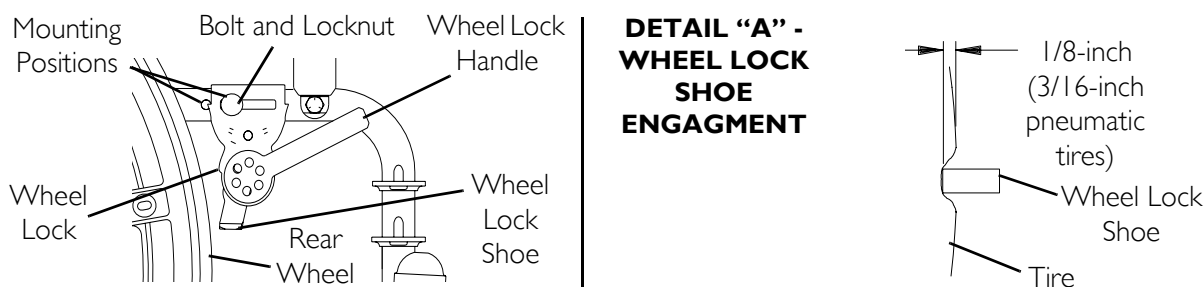

FIGURE 9.5 Adjusting Patient-Operated Wheel Locks
NOTE: For this procedure, refer to FIGURE 9.5 on page 49.
6. Measure the distance the wheel lock is embedded into the tire as shown in DETAIL "A" of FIGURE 9.5.